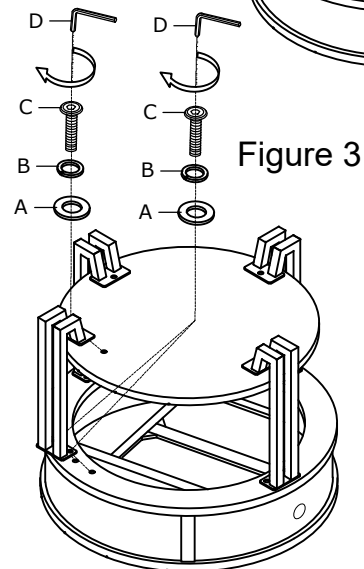

Figure 3
4. Repeat steps 2,3 for the fourth leg. As shown in Figure 3.